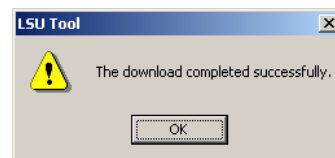

Figure 366: Successful Firmware Upgrade.
3. If the upgrade is successful, the following window appears (Figure 366).